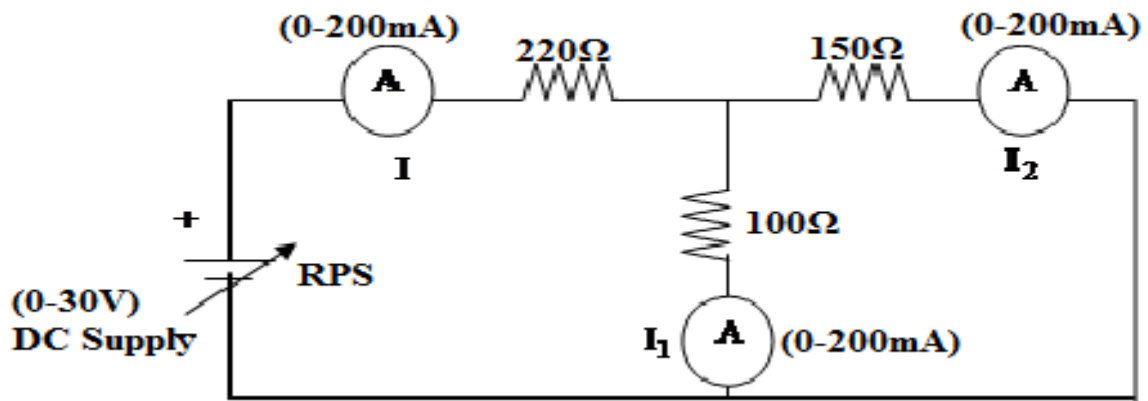

Figure 2
- Connect the circuit diagram as shown in Figure 2